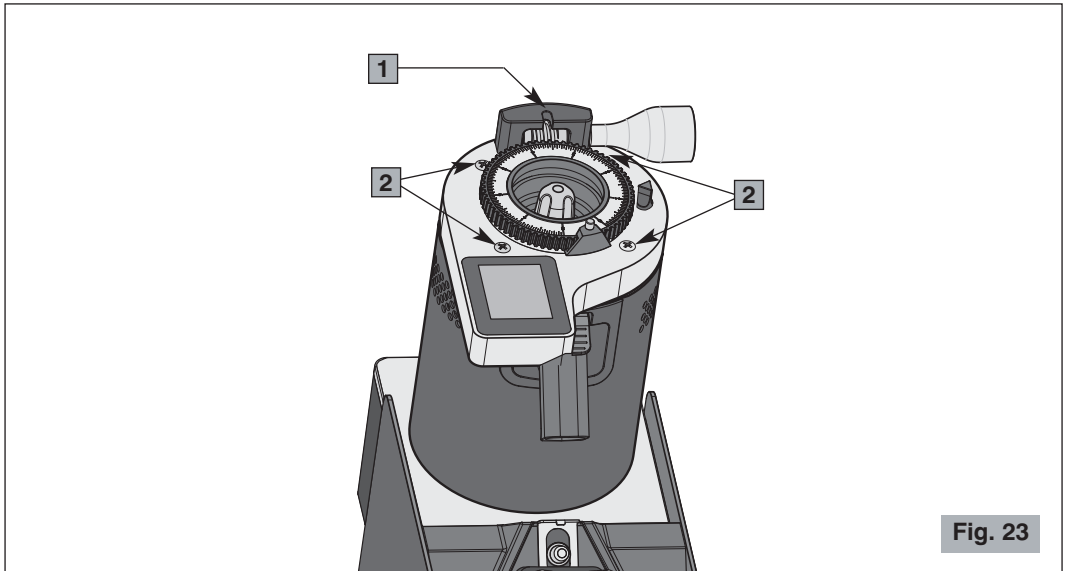

Fig. 23
Once the hopper has been removed, it can be washed with lukewarm water and neutral soap, then rinse it and dry well. To reassemble it, hook the tooth in the rear part of the hopper in its seat (1, Fig. 23).
**To clean the head** remove the four screws (2, Fig. 23) that secure it to the body.